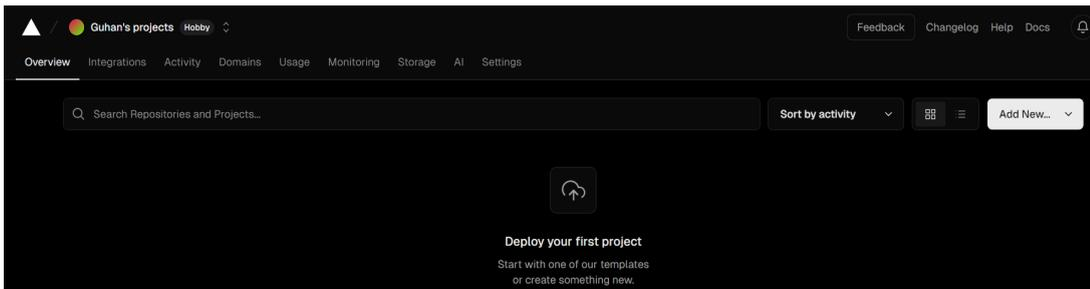

Fig : 4.5.3 - Dashboard for deploying the new project
- Click on the "Add New" button on the dashboard shown on Fig 4.5.3